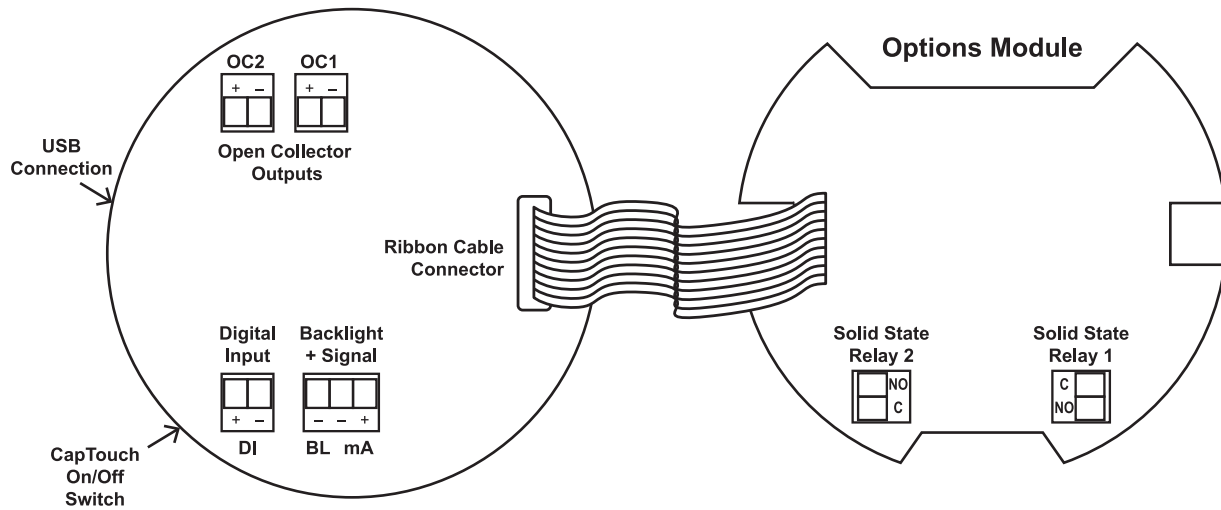

Figure 5. Connector Labeling for PD6928-HA-##-L2N
Relay connections are made to two-terminal connectors, as shown on Figure 5, page 23. Each relay's C terminal is common only to the normally open (NO) contact of the corresponding relay.